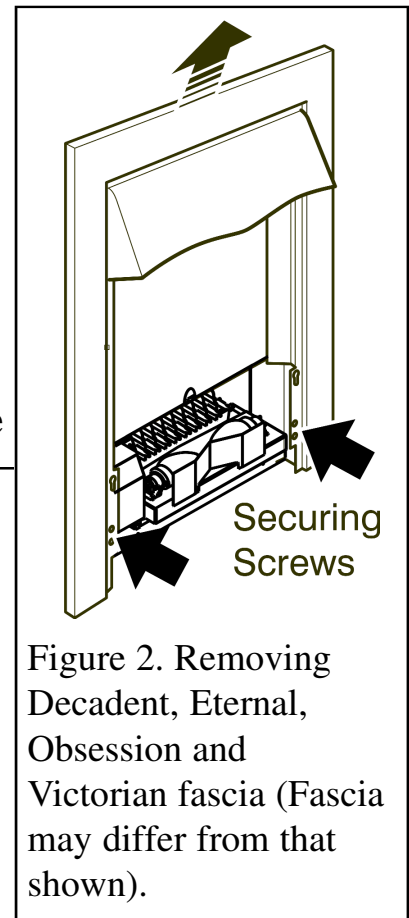

Figure 2. Removing Decadent, Eternal, Obsession and Victorian fascia (Fascia may differ from that shown).
1. Remove the two fascia securing screws (See figure 2). Remove the front fascia by gently pulling the base of the fascia forward whilst lifting clear of the support brackets at the top of the heater (See figure 2).